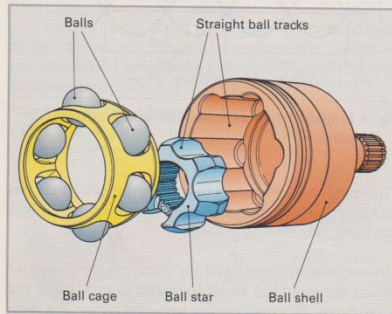

Fig. 2: Pot joint
**Pot joints (Fig. 2).** These are ball joints, the balls of which are guided by a cage and run on **straight tracks** of the ball star and the ball shell.